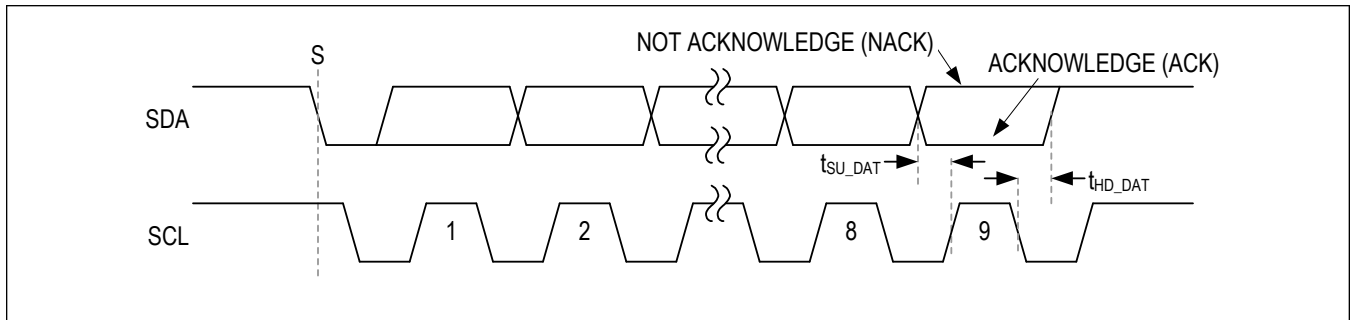

Figure 29. Acknowledge Bit
Both the I2C bus master and slave devices generate acknowledge bits when receiving data. The acknowledge bit is the last bit of each nine bit data packet. To generate an acknowledge (A), the receiving device must pull SDA low before the rising edge of the acknowledge-related clock pulse (ninth pulse) and keep it low during the high period of the clock pulse. See Figure 29. To generate a not-acknowledge (nA), the receiving device allows SDA to be pulled high before the rising edge of the acknowledge-related clock pulse and leaves it high during the high period of the clock pulse.